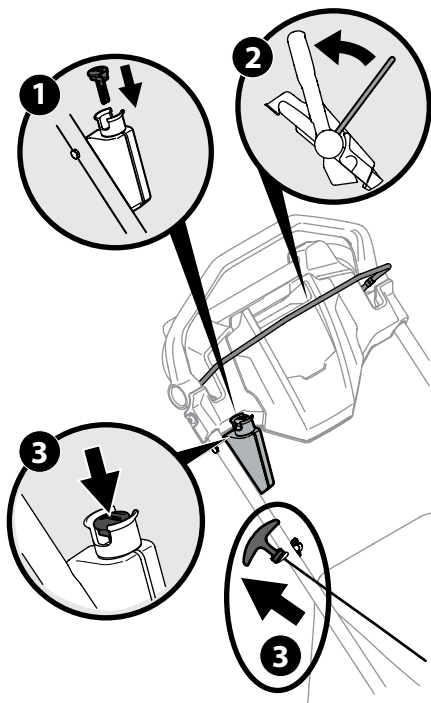

Figure 5-3
2. Standing behind the mower, pull the blade control back against the drive control. See Figure 5-3.
Electric Start (If Equipped): Push the electric starter push key to start the engine. See Figure 5-3.